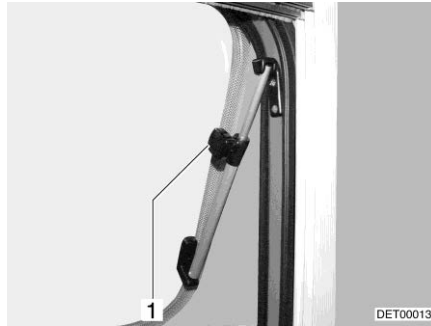

Fig. 120 Skylight with rotary hinges, open
- Open the skylight until the required position has been reached and use knurled knob (Fig. 120,1) to secure in position.
- Turn knurled knob (Fig. 120,1) until the latch is released.